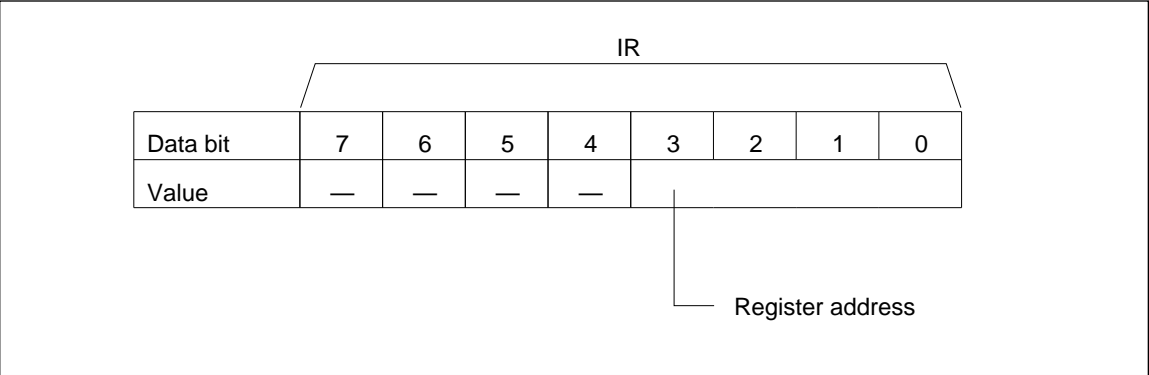

Figure 17 Index Register
Index Register (IR): The index register (figure 17), composed of four valid bits, selects one of the 15 data registers. The index register itself is selected by the MPU while the RS signal is low and selects a data register with the register address written.